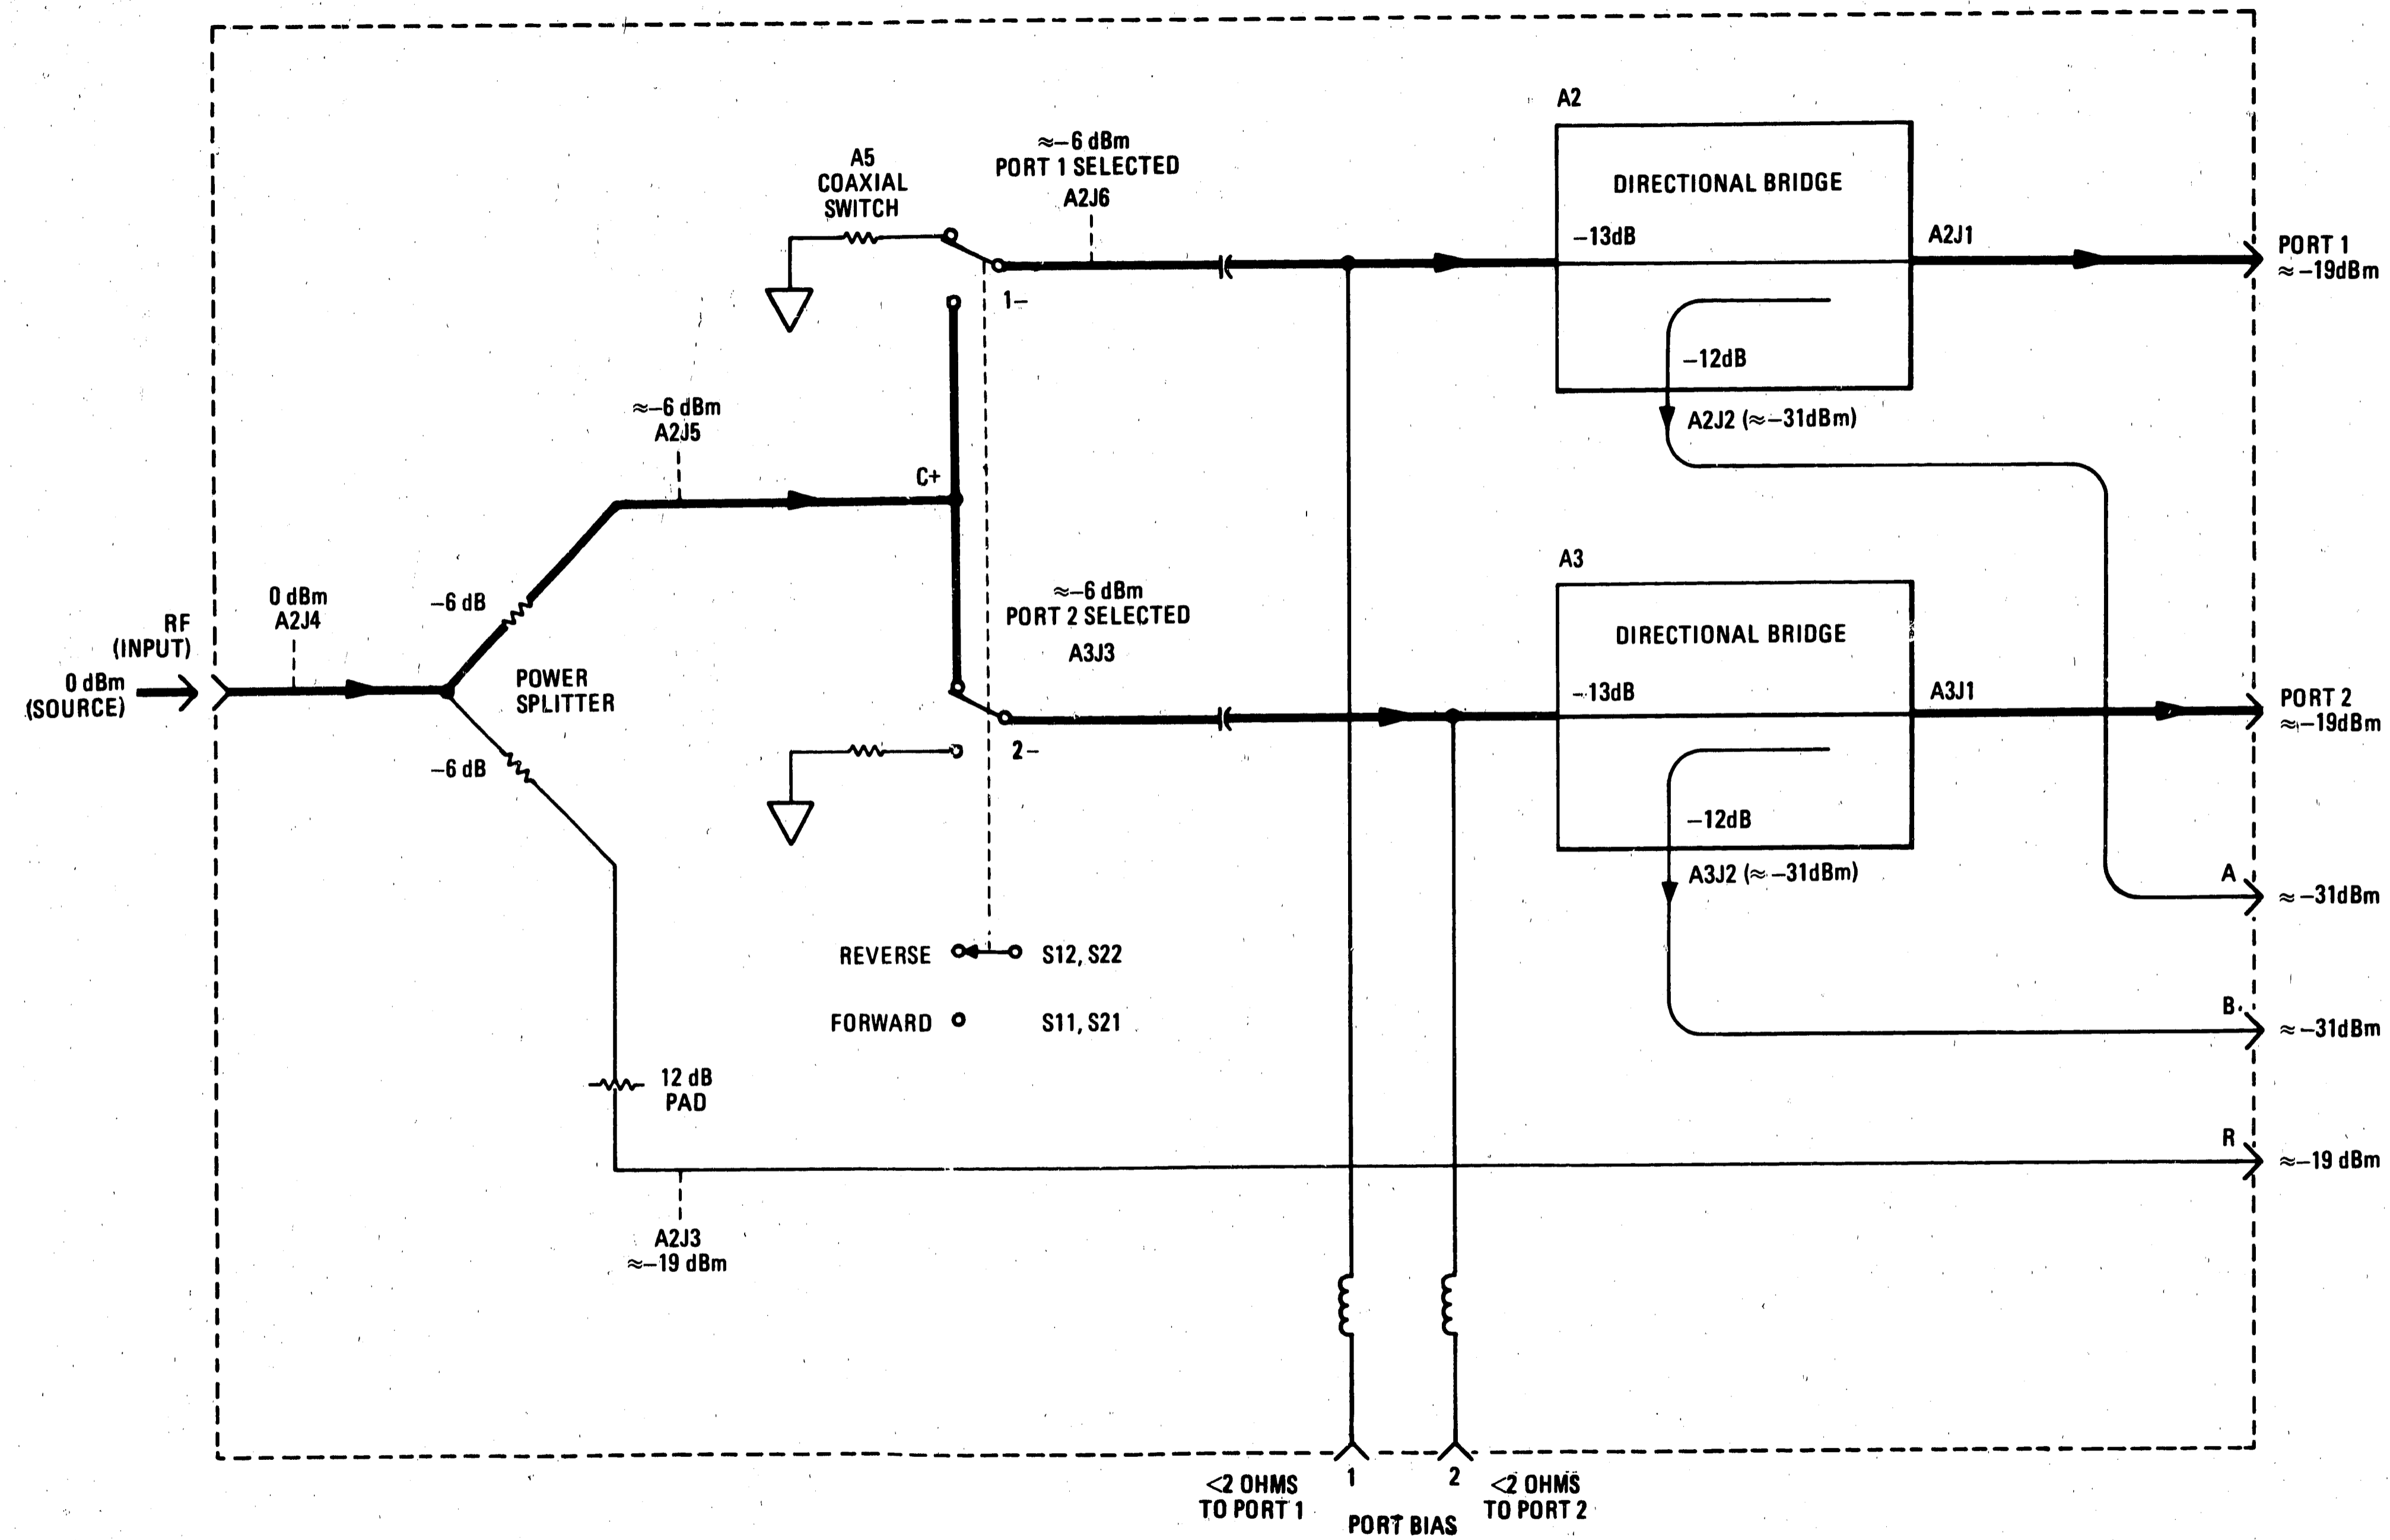

Figure 8-3. RF Troubleshooting Block Diagram
- c. Disconnect RF cables one at a time and check for power levels indicated in Figure 8-3. When checking signal level at Coaxial Switch outputs, switch 8503B S-PARAMETER SELECT switch to insure that A5 is functioning properly.